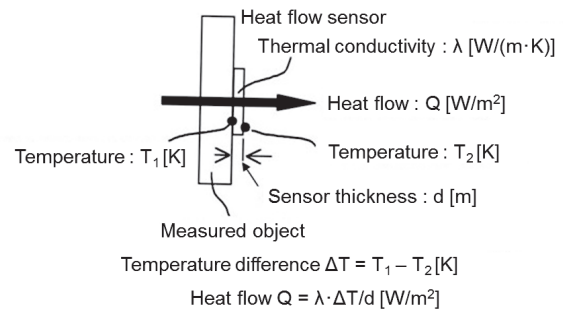

Fig. 1. Measurement principle.
3) *Principle of heat flow measurement:* Fig. 1 illustrates the principle of measurement with a heat flow sensor. If the thermal conductivity  $\lambda$  [ $\text{W}/(\text{m}\cdot\text{K})$ ] and sensor thickness  $d$  [m] are known, it is possible to calculate the heat flow  $Q$  [ $\text{W}/\text{m}^2$ ] by measuring the temperature on both surfaces of the sensor. By detecting the temperature difference between the top and bottom of the sensor with a high degree of precision,